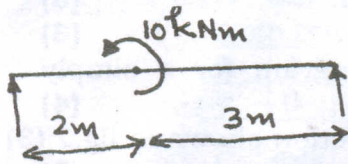

Fig 1
- (a) Express 2.0GN/m^2 in N/mm^2 units. (3)
- (b) What is the deformation in a metal bar, hanging freely along the vertical axis, under its own weight? Total weight of the bar= W , Length of the bar= L , Youngs modulus of elasticity= E . (3)
- (c) Distinguish between centre of gravity and centroid. (3)
- (d) Explain the term redundant frame. (3)
- (e) Draw the shear force and bending moment diagram for a simply supported beam loaded as shown in fig.1. (4)